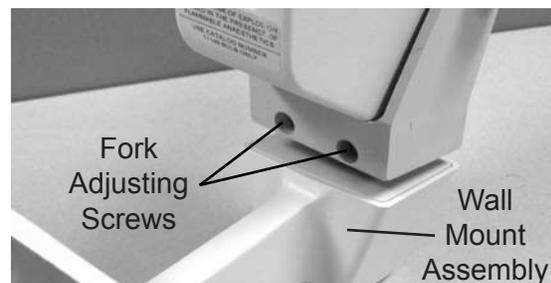

Figure IS-7 Fork Adjusting Screws
3. Using a 3/16" Allen screwdriver, tighten the Fork Adjusting screws to hold the Yoke Assembly in place. Refer to Figure IS-7.